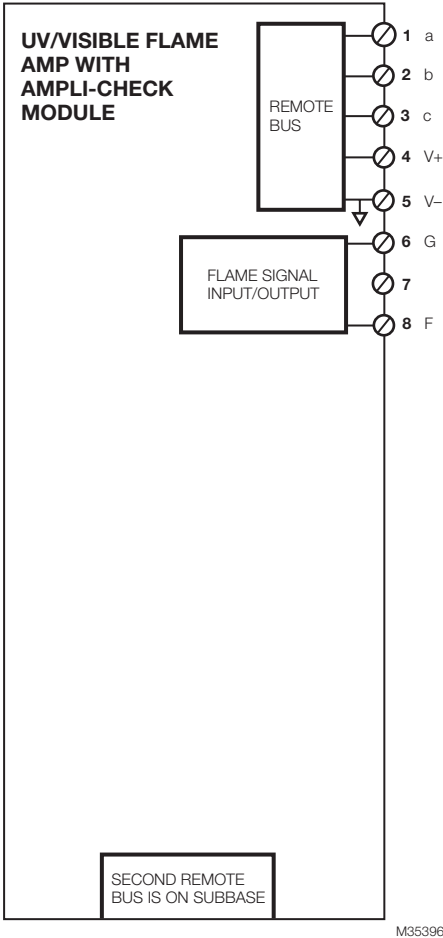

Fig. 4. R8001F1091 SLATE UV Visible Ampli-Check Flame Amplifier wiring.
1. Refer to Fig. 4 for proper flame detector wiring.
- (1) Enclose scanner wiring without armor cable in metal cable or conduit.
- (2) Follow flame detector Instructions.
6. Check wiring, see Fig. 4.